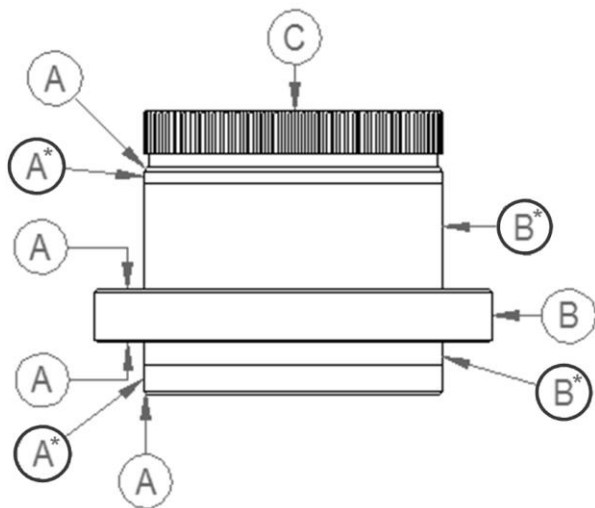
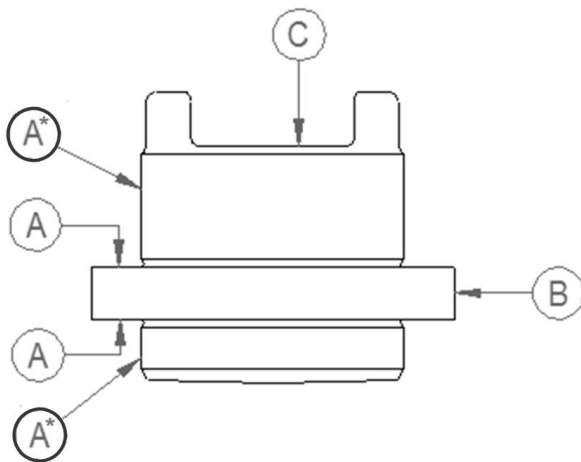

Figure 8 - Splined Output Sleeve, Important Surfaces
Figure 9 – HOB3 Dog Drive Output Sleeve, Important Surfaces
The output sleeve (14) can be easily removed from the gearbox by first removing the spigot ring (15) from the baseplate (16). A small force may have to be applied to the face marked 'C' in Figure 8 to assist in removing the output sleeve.
For all gearboxes, apart from HOB3, see Figure 8. For the HOB3 gearbox, see Figure 9.
- ! **IMPORTANT:** Before re-fitting the output sleeve after machining, check that the surfaces marked 'A' in Figure 8 and Figure 9 are not damaged. Damaged surfaces can break the gearbox seals or bearings and cause water ingress or grease leakage.
An anti-friction compound containing molybdenum disulphide, such as MI-Setral-9M, should be applied to the faces marked with an asterisk '*' in Figure 8 and Figure 9 before inserting the output sleeve back into the gearbox. For clarification on the suitability of an anti-friction compound, please contact Rotork.
- ! **IMPORTANT:** Before fitting the output sleeve, check that the surfaces marked 'A' in Figure 8 and Figure 9 are not damaged. Damaged surfaces can break the gearbox seals or bearings and cause water ingress or grease leakage.
An anti-friction compound containing molybdenum disulphide, such as MI-Setral-9M should be applied to the faces marked with an asterisk '*' in Figure 8 or Figure 9 (whichever is applicable), before inserting the output sleeve back into the gearbox. For clarification on the suitability of an anti-friction compound, please contact Rotork.